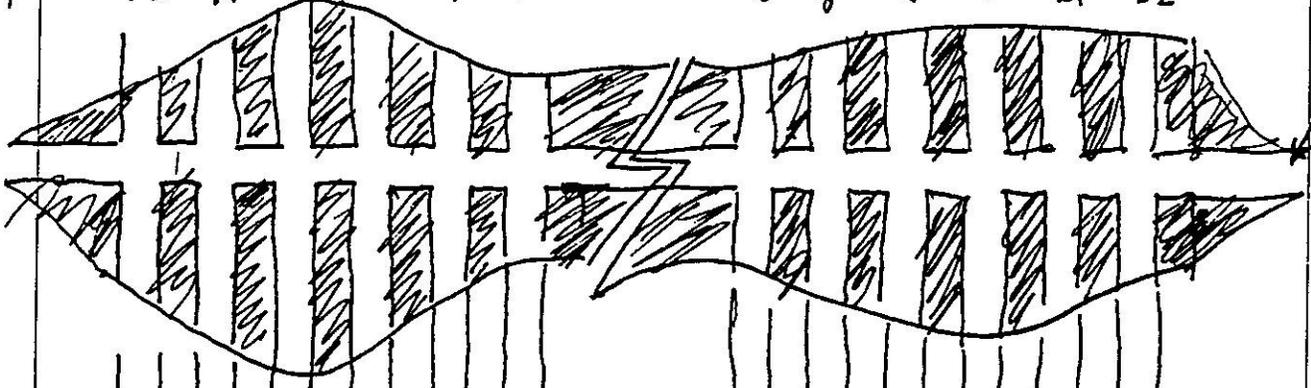

**Figure 1. Measurement Positions for 50 cm Morgan Coil Probe**
1) Mark 1 1/2", 6", and 10 1/2" , 14 1/2", and 19 1/2" points along the length of the probe as shown in Figure 1.